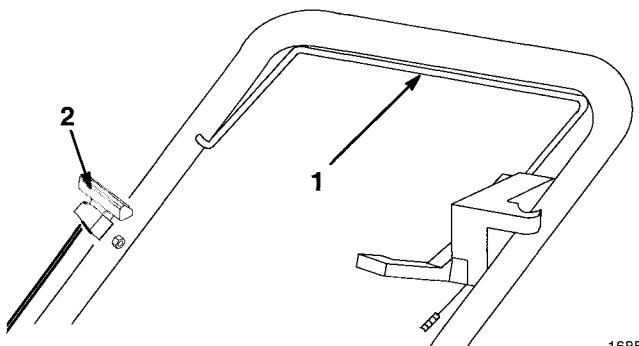

Figure 12
4. Squeeze control bar against handle (Fig. 12).
5. Pull starter handle (Fig. 12) lightly until resistance is felt, then pull sharply. Let rope return to handle slowly.
2. Pull starter handle (Fig. 12) lightly until resistance is felt, then pull sharply. Let rope return to handle slowly.